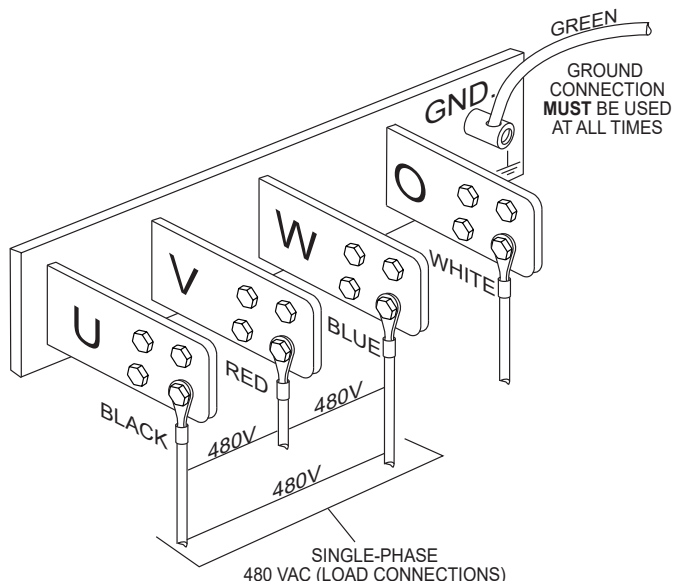

Figure 31. UVWO Terminal Lugs (Single-Phase 480-Volt Connections)
2. Connect the load wires to the UVWO terminals as shown in Figure 31.